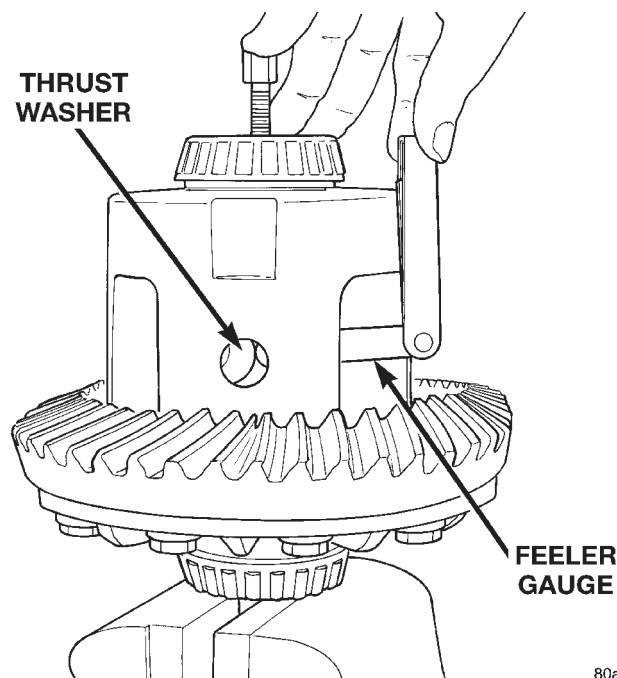

Fig. 61 Remove Pinion Gear Thrust Washer
(10) Using an appropriate size feeler gauge, remove thrust washers from behind the pinion gears (Fig. 61).